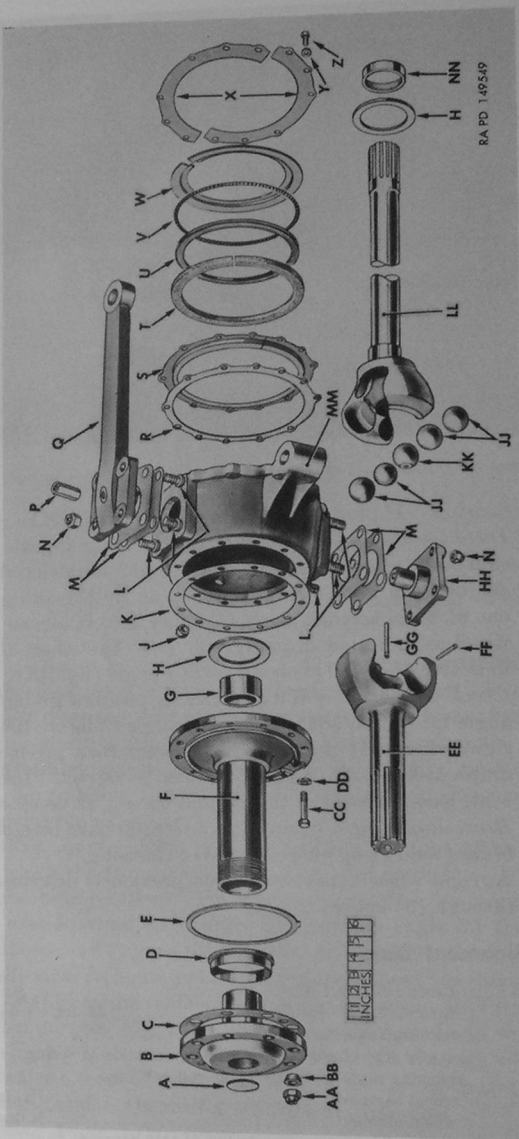
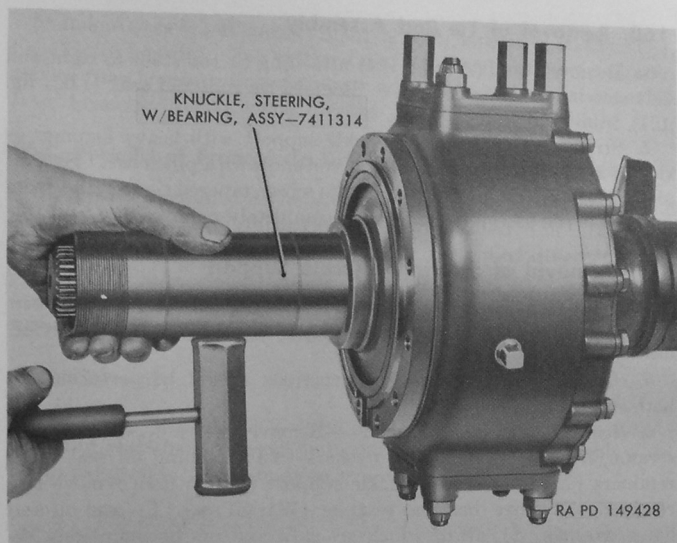

Figure 109. Components of steering knuckle, support, oil seals, and universal joint (left side shown).
Figure 110. Removing steering knuckle.
a. Remove Steering Knuckle.—Use brass or soft hammer (fig. 110) to tap steering knuckle ((F), fig. 109) on all sides to loosen knuckle from steering knuckle support ((MM), fig. 109). When loose, pull knuckle straight outward to complete removal. Remove and discard gasket ((K), fig. 109) from knuckle or support.
Note. Steering knuckle support and associated parts are illustrated in figure 109 and key letters noted in parentheses refer to this illustration unless otherwise indicated.